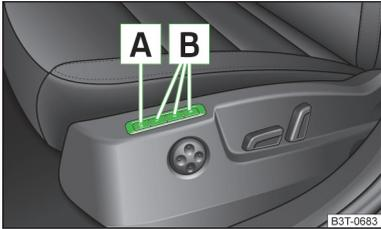

Fig. 71
The memory function for the driver's seat provides the option to store the positions of the driver's seat and the external mirrors. Each of the three memory buttons **B** » Fig. 71 can be assigned a set position.
- › Press the button **SET** **A** » Fig. 71.
- › Press the required memory button **B** » Fig. 71.
- › Briefly press the desired memory button **B** » Fig. 71 with the ignition on.
- › Press and hold any memory button **B** » Fig. 71 on page 84.
- Press and hold the **(SET)** button **A** » Fig. 71 on page 84. At the same time, press the button **(A)** on the remote control key within 10 seconds.